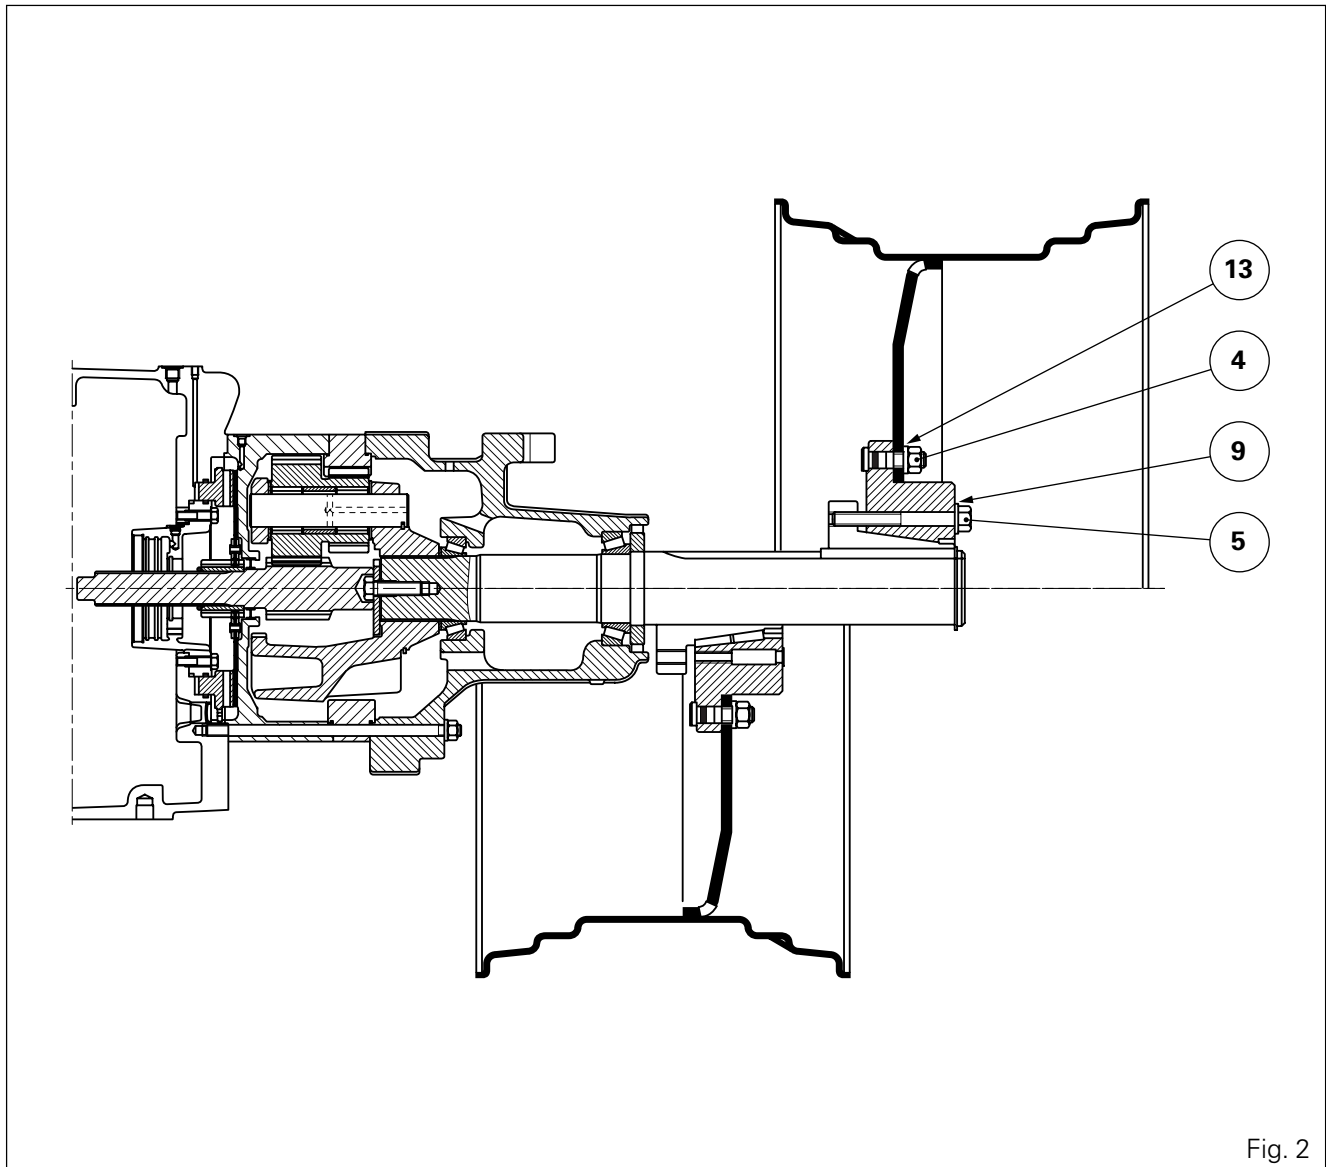

Fig. 2
Note: The section of cone (8) is identical for figures 2, 4 and 5.